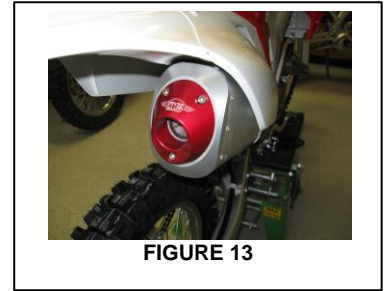

FIGURE 13
19. Insert the spark arrestor screen and install the turnout nozzle with three M6 bolts. **FIGURE 13**